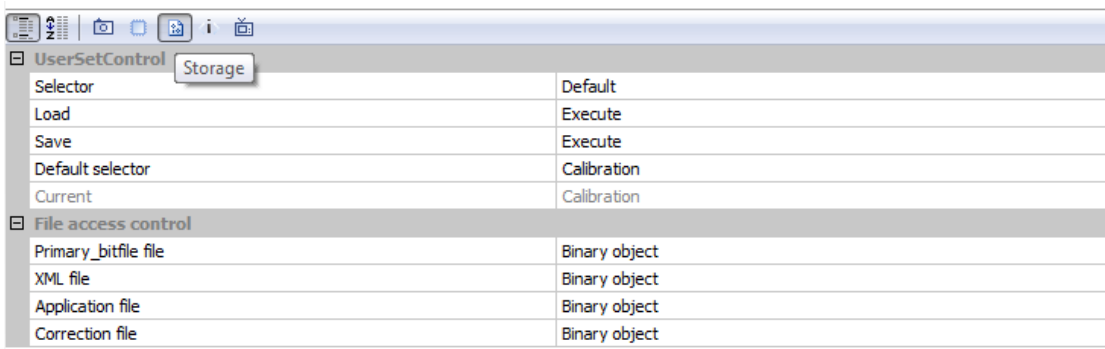

Figure 3-5 Correction pack upload: storage icon
- In Xenith: go to the Settings tab / Storage icon (see Figure 3-5)